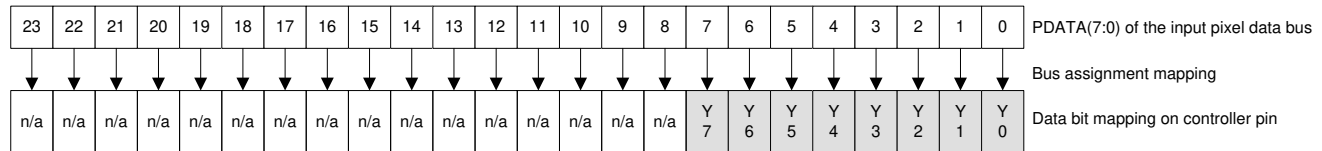

图 6-9. BT.656 Interface Mode Bit Mapping
- (1) Calculate clock jitter (in ns) using this formula: Jitter = $[1 / f_{\text{clock}} - 5.76 \text{ ns}]$. Clock jitter must maintain setup and hold times. BT.656 data bits must be mapped to the DLPC34xx PDATA bus as shown in 图 6-9 shows BT.656 bus mode YCbCr 4:2:2 source PDATA (23:0) mapping.
- (2) The BT.656 interface accepts 8-bits per color, 4:2:2 YCbCr data encoded per the industry standard through PDATA(7:0) on the active edge of PCLK. See 图 6-9.